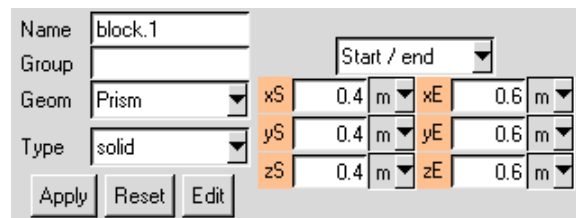
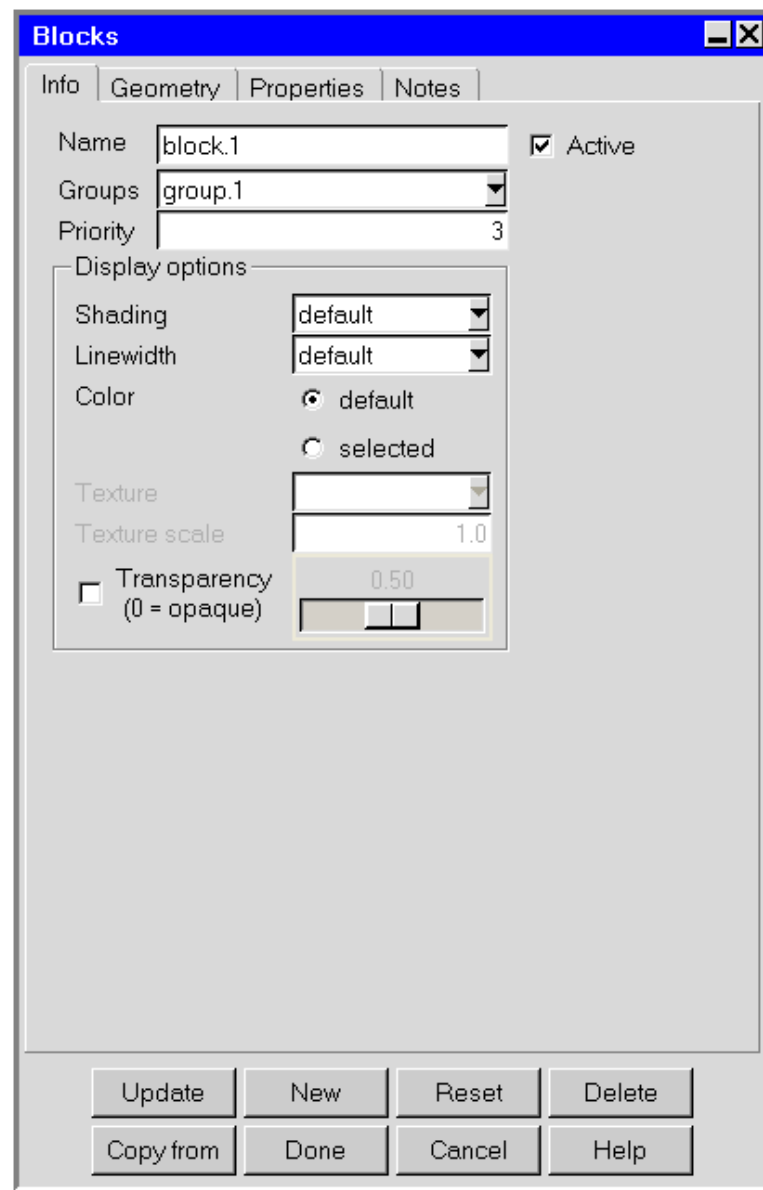
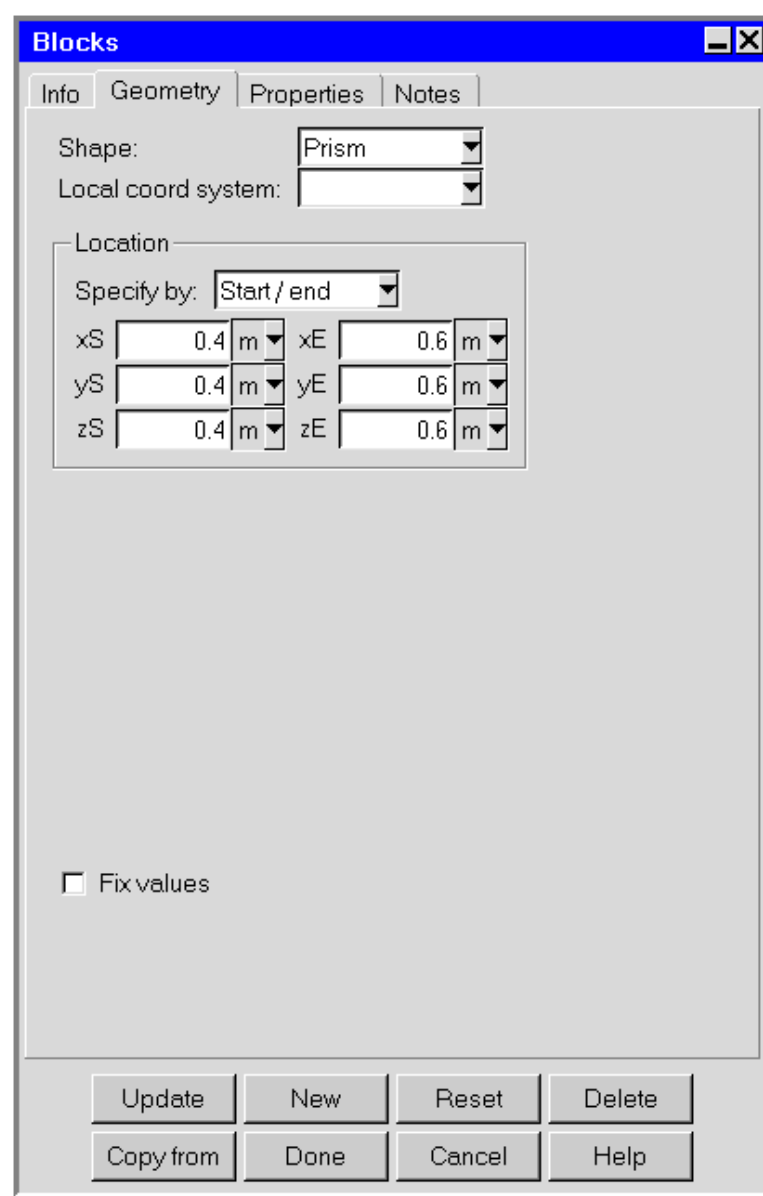

Figure 7.3.1: Example of an Object Edit Window
Figure 7.3.2: Example of an Object Panel (Info Tab)
Figure 7.3.3: Example of an Object Panel (Geometry Tab)
When you click on an object button in the Object creation toolbar, the Edit window in the lower right corner of the screen becomes the object Edit window for the type of object selected. For example, if you click on the  button in the Object creation toolbar, then the Edit window becomes the block Edit window. The object Edit window is similar for all types of objects, and is divided into sections for name and group information and relevant geometric information. Figure 7.3.1 shows an example of an object Edit window specific to blocks (the block Edit window).
The Object panel allows you to specify physical characteristics and properties not available in the object Edit panel. In general, the Object panel is divided into four parts that are similar for all types of objects: description, geometry specification, and physical properties, and object notes. Figures 7.3.2–7.3.5 show examples of an Object panel specific to blocks (the Blocks panel).
The object will become highlighted in the object list and the characteristics of the object will be displayed in the object **Edit** window (e.g., Figure 7.3.1) and the **Object** panel (e.g., Figure 7.3.2).
To edit an object, select the object and click on the  button in the **Object modification toolbar** (Figure 7.1.2). This opens the **Object** panel (e.g., Figure 7.3.2). The **Object** panel is specific to the type of object being configured and contains more functionality than the object **Edit** window. The **Object** panel allows you to specify physical characteristics and properties not available in the object **Edit** window.
- To modify the plane of the currently selected object (if relevant), click the **Plane** text entry field in the object **Edit** panel (e.g., Figure 7.3.1) using the left mouse button to open a list of available planes (**yz**, **xz**, and **xy**), and select a new plane from the list. The plane of the currently selected object can also be specified in the **Object** panel (e.g., Figure 7.3.3) using the **Plane** drop-down list, where you can choose **Y-Z**, **X-Z**, or **X-Y**.
Each **Object** panel (e.g., Figure 7.3.3), and also the **Room** panel (Figure 7.2.3), contains a **Local coord system** drop-down list. To select a local coordinate system for an object (or for the room), open the **Local coord system** list and select a local coordinate system from the list. If the **Local coord system** field is empty, the global coordinate system will be used for the object (or room).